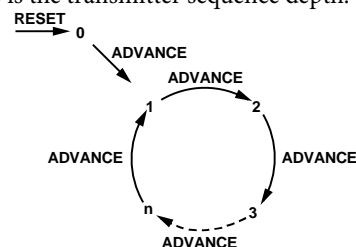

Figure 28. State Machine Position Loop
Figure 28 shows how the state machine pointer moves through a loop. In this diagram, n is the total number of states inside the loop. Because the sequencer depth bit field is 0 indexed, n is equal to one more than the value of the bits in the sequencer depth.
- Bit 0 to Bit 3: **MULT_STATES**. Sets the number of states in the loop (see Figure 28).
Register 0x017 contains Bit 0 to Bit 6, **TX_STATES**, which sets the number of states in the loop (see Figure 28).